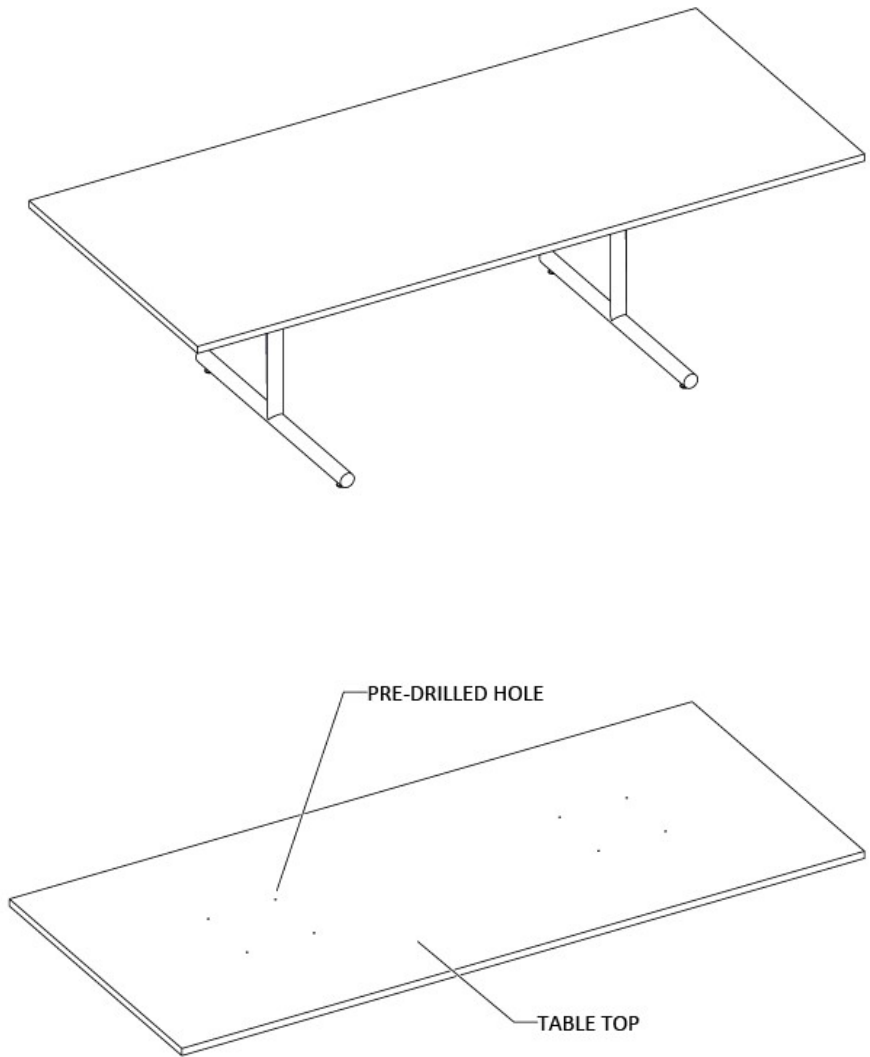

Figure 1
1. Place the table top on a clean solid surface or floor with the underside facing up, (Figure 1).